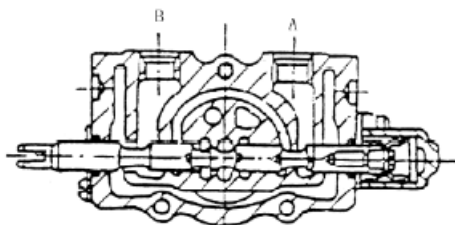

Fig. 5-6 Draw out spool
c) Drawing-out of spool (See Fig. 5-6)